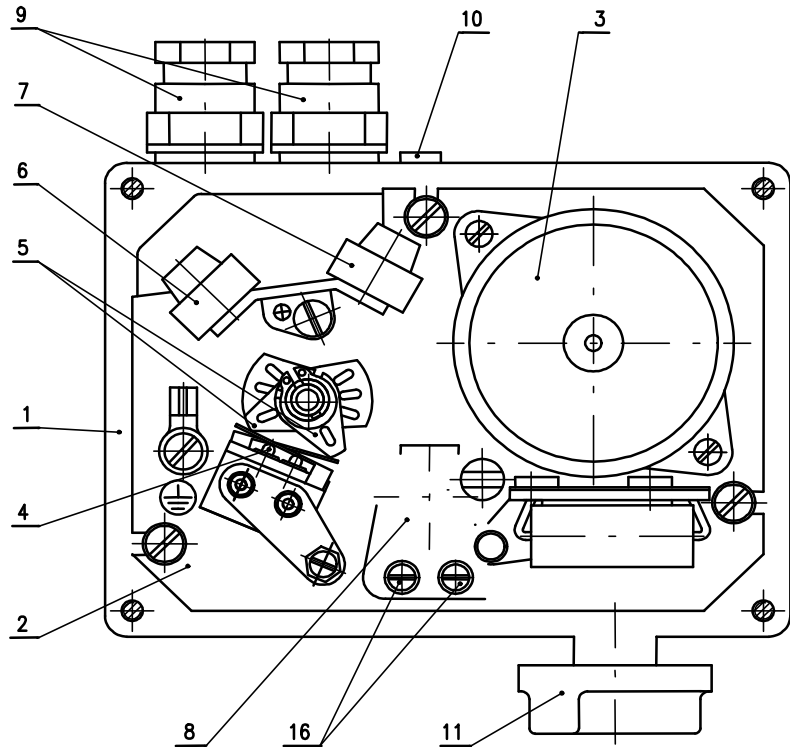

Fig.1
The actuators are driven with synchronous electric motor (3) (Fig. 1). The torque from the electric motor is transferred through the spur gear train located in the bottom case (1) representing the base of the actuator. The whole gear train is covered with the gear board (2) where shafts of pinions are placed in sliding bearings. The gear train is equipped with a mechanism for disengagement in case of manual control of the actuator. The electric motor is controlled directly with position switches (4) switched by turning of cams (5) placed directly on the output shaft leading from the gear board to the control part. The gear board can be optionally equipped also with the terminal board for electric motor connection (6), the terminal board for transmitter connection (7) and a resistive transmitter (potentiometer) (8). Plugs for cables (9), an earthing clamp (10) and the disengagement button (11) are located at the actuator sides. The actuators SP 0 can be equipped also with a hand wheel placed on the upper cover.